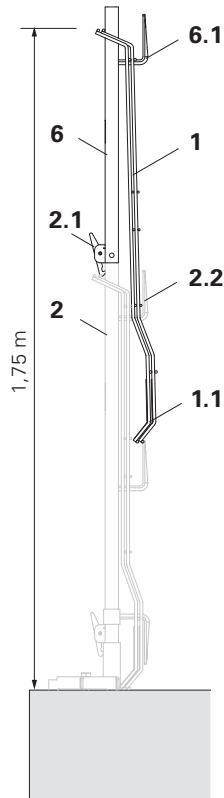

Fig. A3.08
(Fig. A3.08)
Attach the Side Mesh Barrier PMB (1) to the top retainer (6.1) of the Post Extension PPE and retainer (2.2) of the Post PP. (Fig. A3.08)